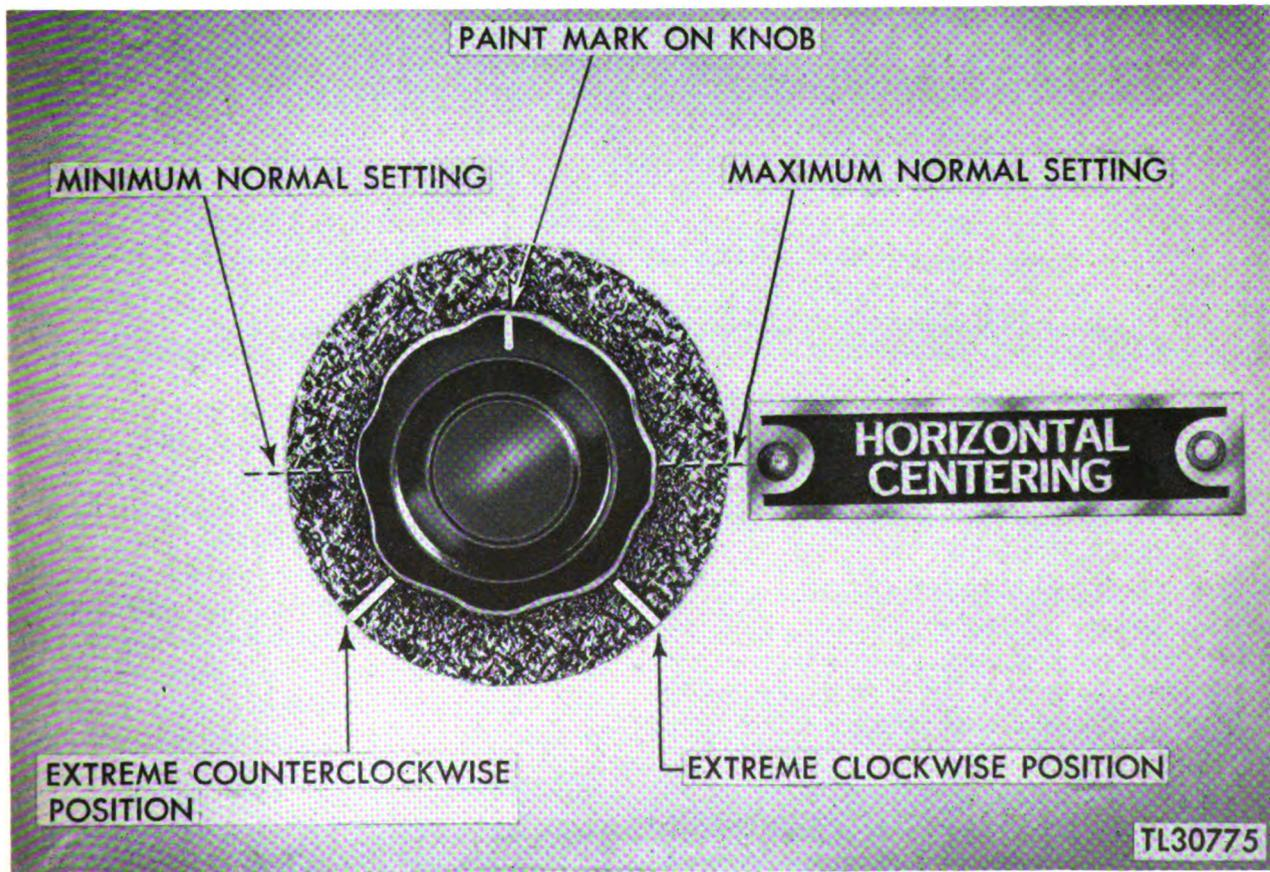

Figure 58. Horizontal centering control.
**HOW TO OBTAIN THE INFORMATION.** Since there is no scale on this control, estimate the fraction of a turn as accurately as possible. In order to simplify this step, place white paint marks on the knob and on the panel as shown in figure 58.